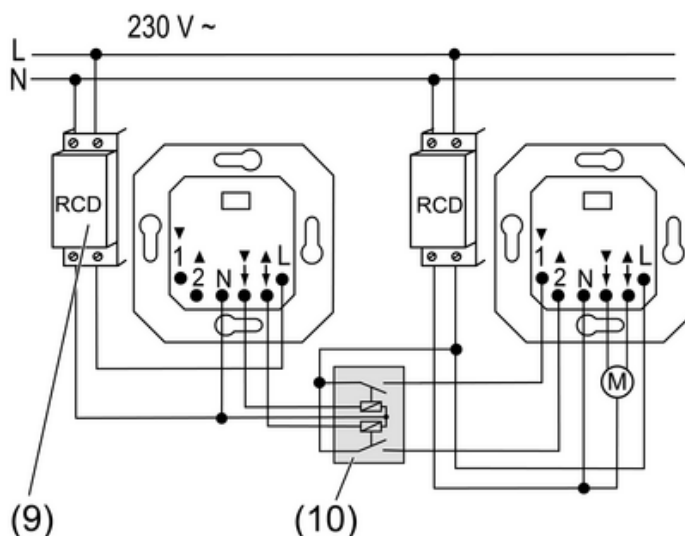

Figure 4: Connection example of two RCD circuits
(9) Residual current device (RCD)
(10) Venetian blind cutoff relay
- Connect the devices according to the connection example (figure 4).